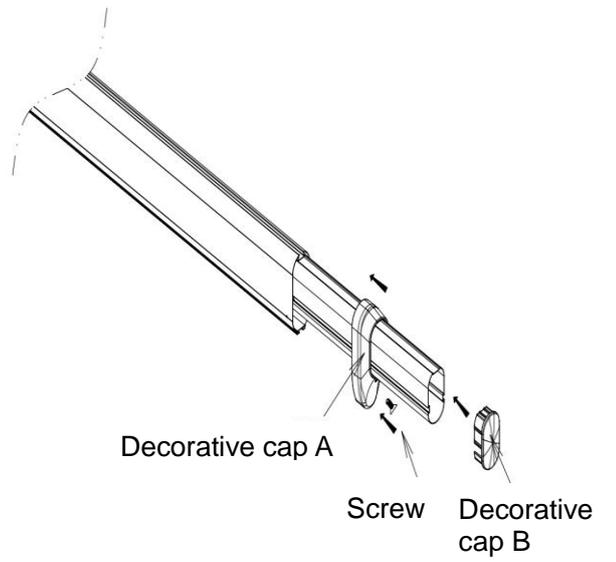

Figure 2-4D
- 5) Install decorative cap A on the expansion boom, fasten the decorative cap to the fixed plate of the expansion boom, and then install decorative cap B to the end of the expansion boom, as shown in Figure 2-4D.